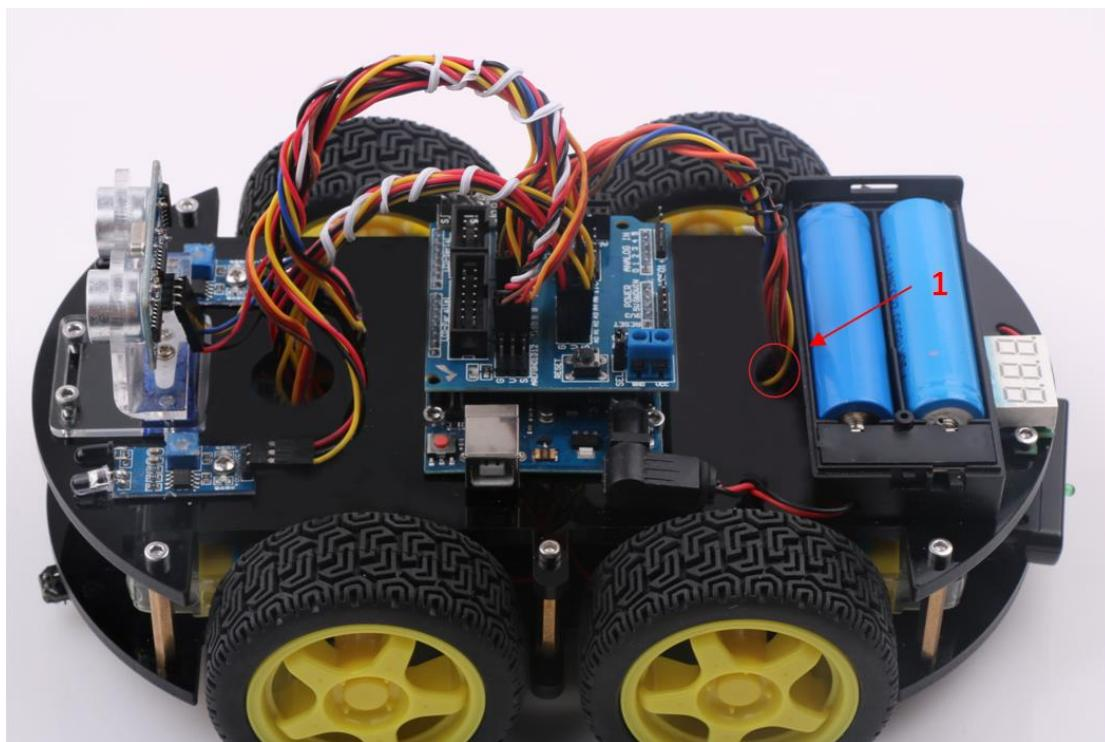

Figure 3.2.57 Wire Connection Diagram
3、Lead the wire according to the hole marked “1” in Figure 3.2.57, and connect the wire to the Arduino expansion board with reference to Figure 2.3.58. After the completion, as shown as Figure 2.3.57.